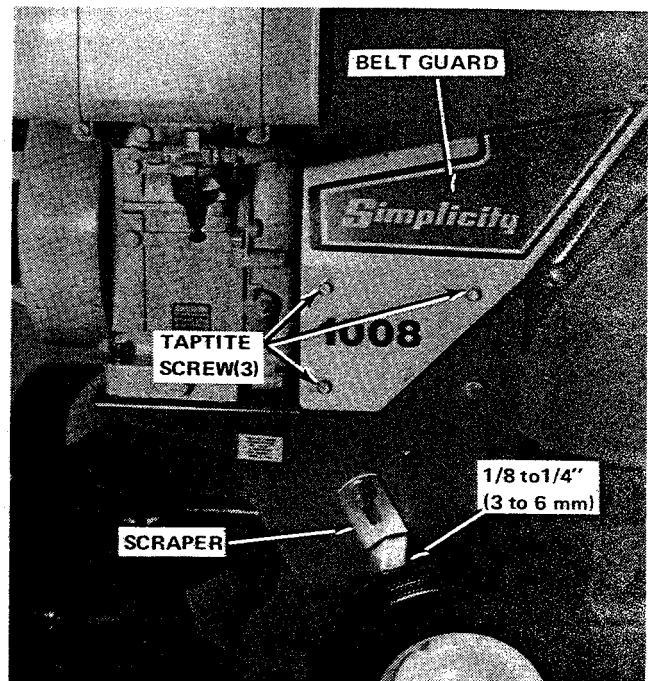

Figure 15. Belt Guard and Scrapers
For access to some adjustment points, the belt guard (figure 15) must be removed. To remove the belt guard, remove the three taptite screws from each side (see figure 15). Reinstall belt guard when adjustments are completed.
The scrapers (see figure 15) at each wheel help to keep the wheels free of dirt, stones, and mud. They should be adjusted for maximum cleaning, but should never interfere with wheel movement. To adjust a scraper, loosen the hex nut, set scraper for 1/8 to 1/4 inch (3 to 6 mm) clearance, and retighten the nut while holding scraper in position parallel to wheel surface.
Open the skin pack and arrange all parts by size and type. For access during assembly, remove the belt guard (see figure 15). To install the handle assembly, proceed as follows:
10. Reinstall belt guard (see figure 15). The throttle cable runs through the belt guard.